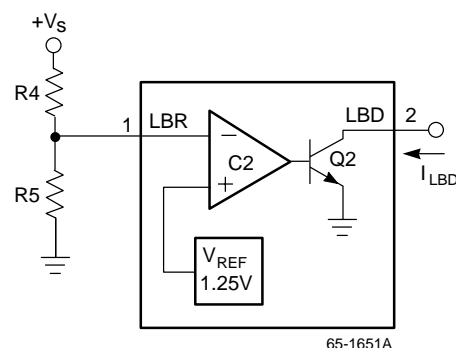

Figure 13. Low Battery Detector
*Caution: Use current limiting protection circuit for high values of C_F (Figure 13)
An open collector signal transistor Q2 with comparator C2 provides the designer with a method of signaling a display or computer whenever the battery voltage falls below a programmed level (see Figure 13). This level is determined by the +1.25V reference level and by the selection of two external resistors according to the equation:
Draws excessive supply current on star-up.	Inductance value too low. Output frequency (F_O) too low. Combination of low resistance inductor and high value filter capacitor — needs current limiting circuit (Figure 13).